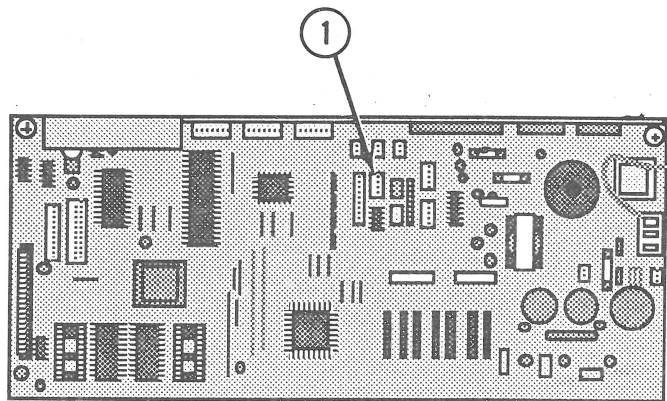

FIGURE 6
2. Disconnect the paper feed motor cable from main board connector CN6 (Figure 6, #1).